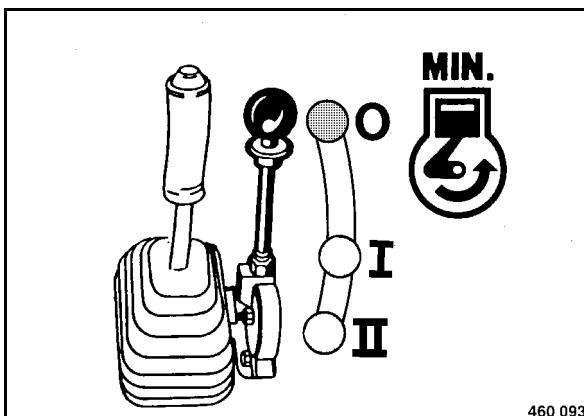

Fig. 38
- Set the throttle lever (Fig. 38) to "0"-position.